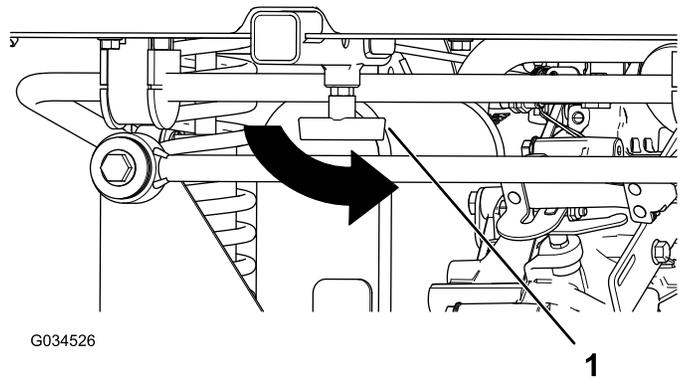

Figure 18
4. Tighten the “T” handle by rotating it counterclockwise (Figure 18).